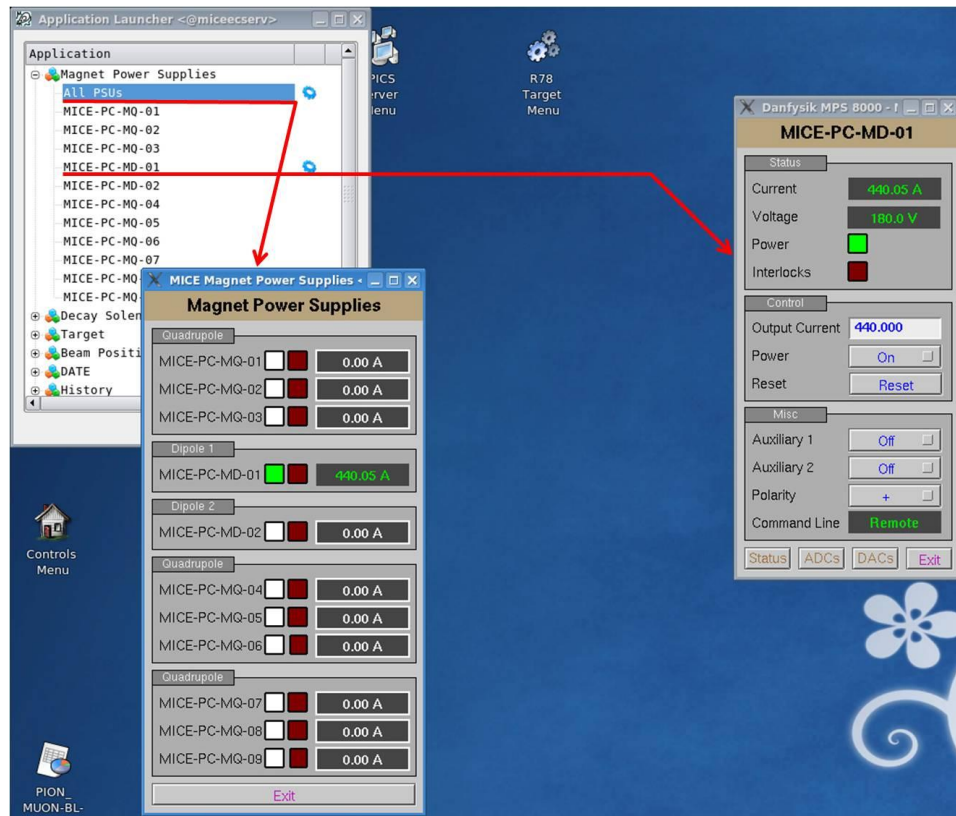

Figure 1: a screenshot from XXXXX machine in the MICE LCR showing the Application Launcher, the Power Supplies monitor and the Dipole1 (D1) control panel.
6. Fig. 1 shows the monitor and control panels for the Beamline conventional magnets.